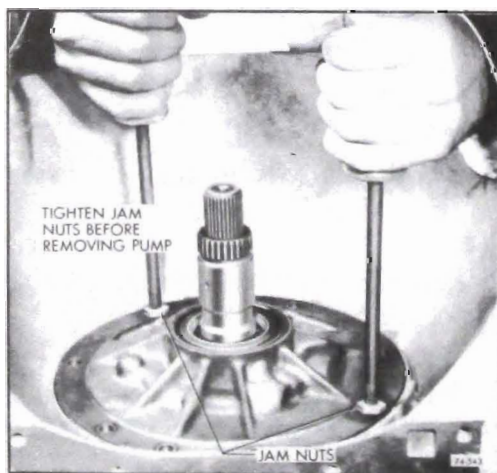

Figure 76-542
3. Install threaded slide Hammers, J-7004, into bolt holes in the pump body, tighten jam nuts and remove pump assembly from case. See Figure 76-542.